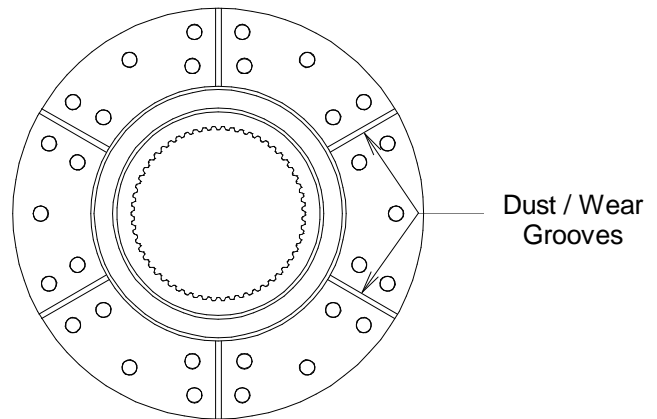

Fig. 5
| #8Friction Disc  | Friction Material      | Fully worn at bottom of dust groove, or step on O.D. for size 48". See Figure 5. Friction material must also be replaced if contaminated with oil or grease. | Brakes have adjustment provision. See Section 4.2.   |
4.2.1.1 The friction material must be replaced when worn to the bottom of the groove (or O.D. "step" for size 48") on the friction lining (see Figure 5) or any "X" or "Y" dimension exceeds the limits shown on Table 8. A wear adjustment is required when the "X" or "W" dimension has been reached and the "X" or "Y" dimension(s) or friction discs are not worn to their limits.